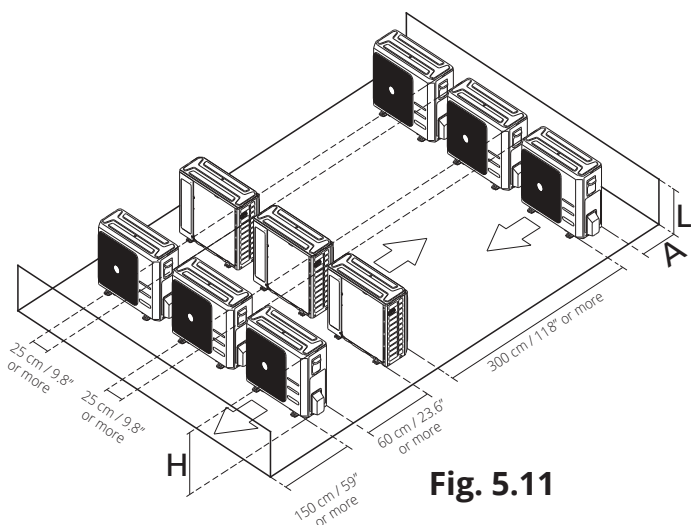

**Fig. 5.10**
**NOTE:** The minimum distance between the outdoor unit and walls described in the installation guide does not apply to airtight rooms. Be sure to keep the unit unobstructed in at least two of the three directions (M, N, P) (See Fig. 5.10)